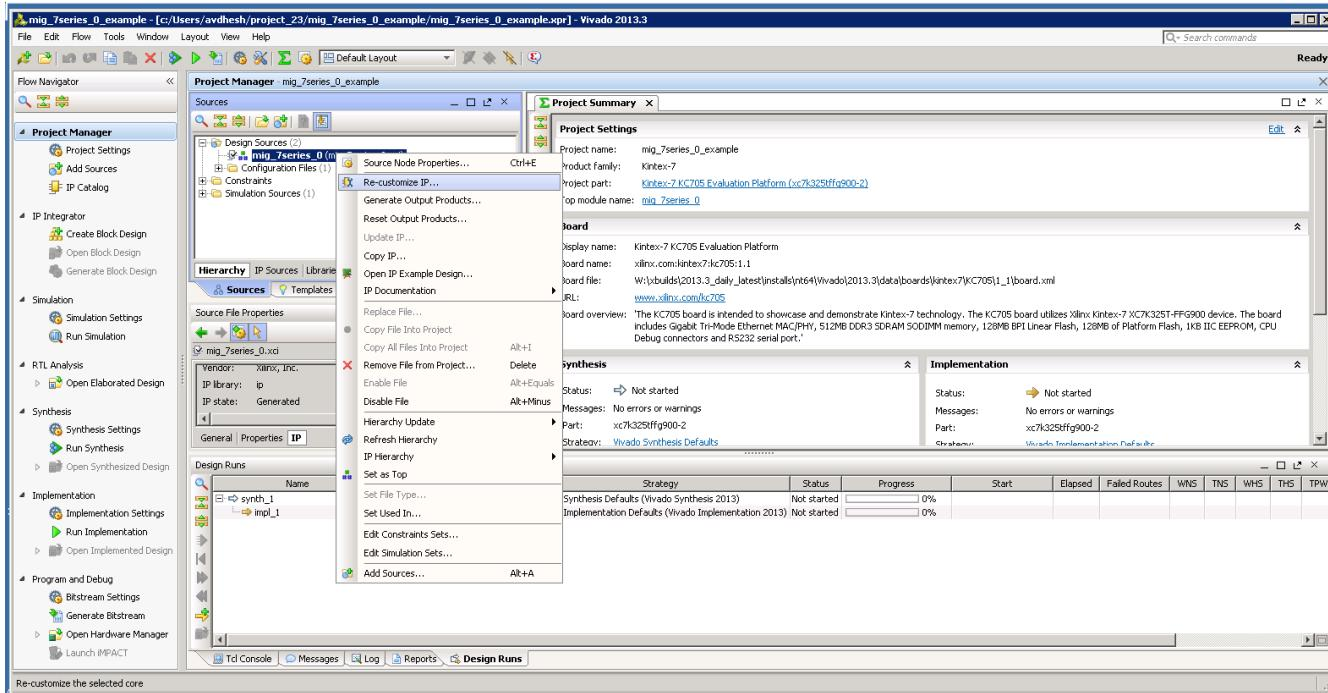

Figure 4-36: Recustomize IP
12. Recustomization of the MIG IP can be done by using the **Recustomize IP** option. It is not recommended to recustomize the IP in the `example_design` project. The correct solution is to close the `example_design` project, go back to original project and customize there. Right-click the XCI file and click **Recustomize IP** (Figure 4-36) to open the MIG GUI and regenerate the design with the preferred options.